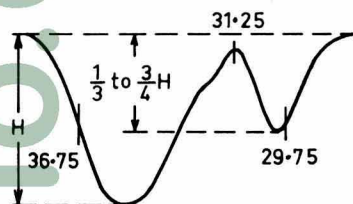

FIG. 13.
11. Adjust sweep output to produce 30 volts peak-to-peak output at the video amplifier. Connect C. R. O. to sound detector output between L11 and C10 and observe the waveform displayed. It should be similar to Fig. 13, with the re-entry peak between $\frac{1}{3}$ and $\frac{3}{4}$ of the pattern amplitude. A slight re-adjustment of IFT 3 may be necessary to achieve this response.